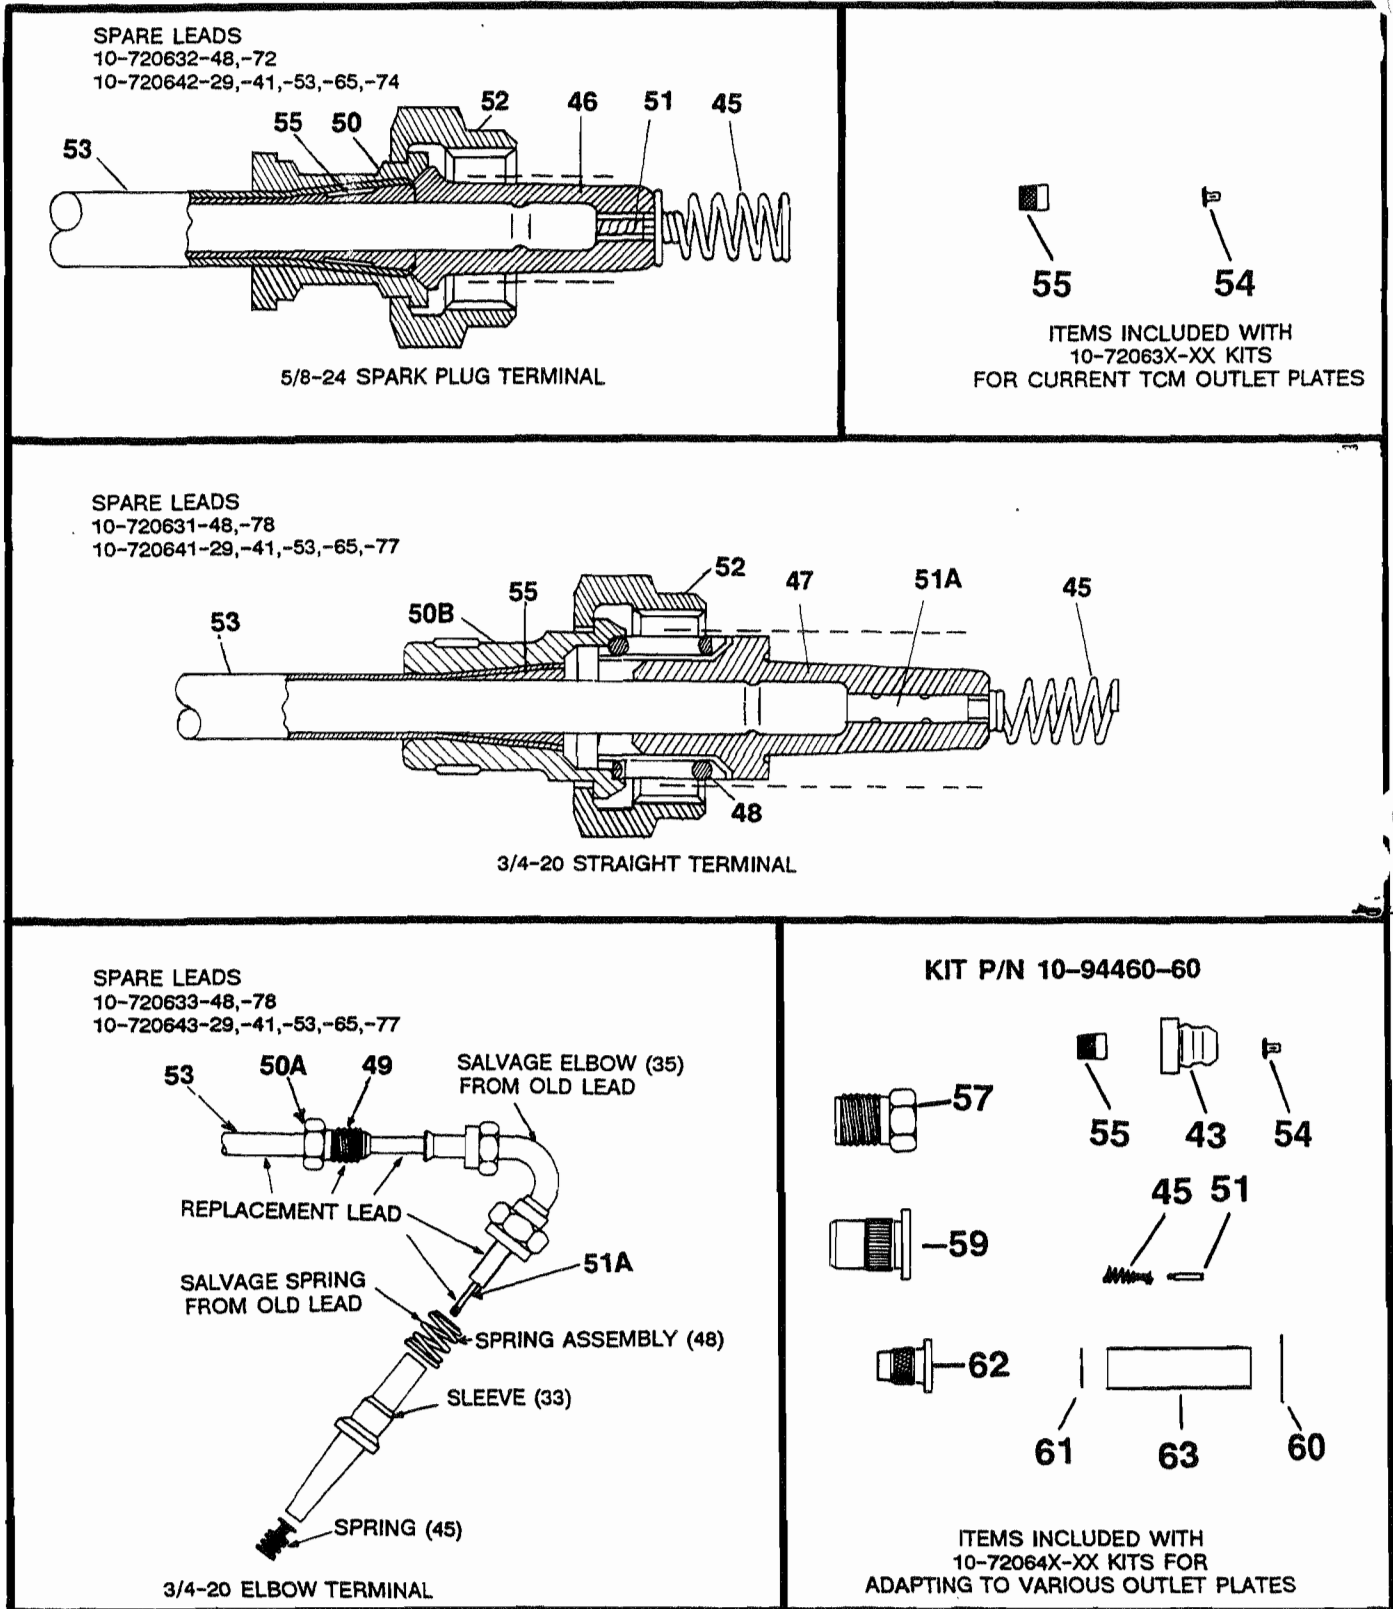

FIGURE 205: SPARE LEAD KITS
- D. Spare leads with spark plug ends pre-assembled* are available in two lengths for TCM-only type kits and in five lengths for universal adapter kits. Part number suffix equals lead length in inches. See Figure 205.
* For 3/4-20 elbow types, elbow (35), spring (45), spring assembly (48) and sleeve (33) not included.